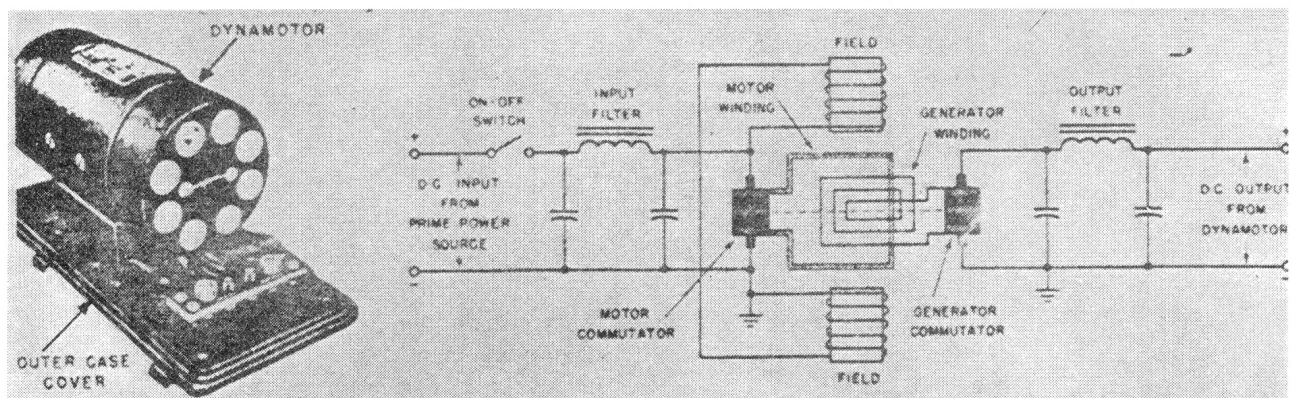

Figure 10. Dynamotor and schematic of a dynamotor power supply.
a. Figure 10 shows a dynamotor and a schematic of a dynamotor power supply. Notice that the motor and generator are combined on a single frame. This is true of all dynamotors.